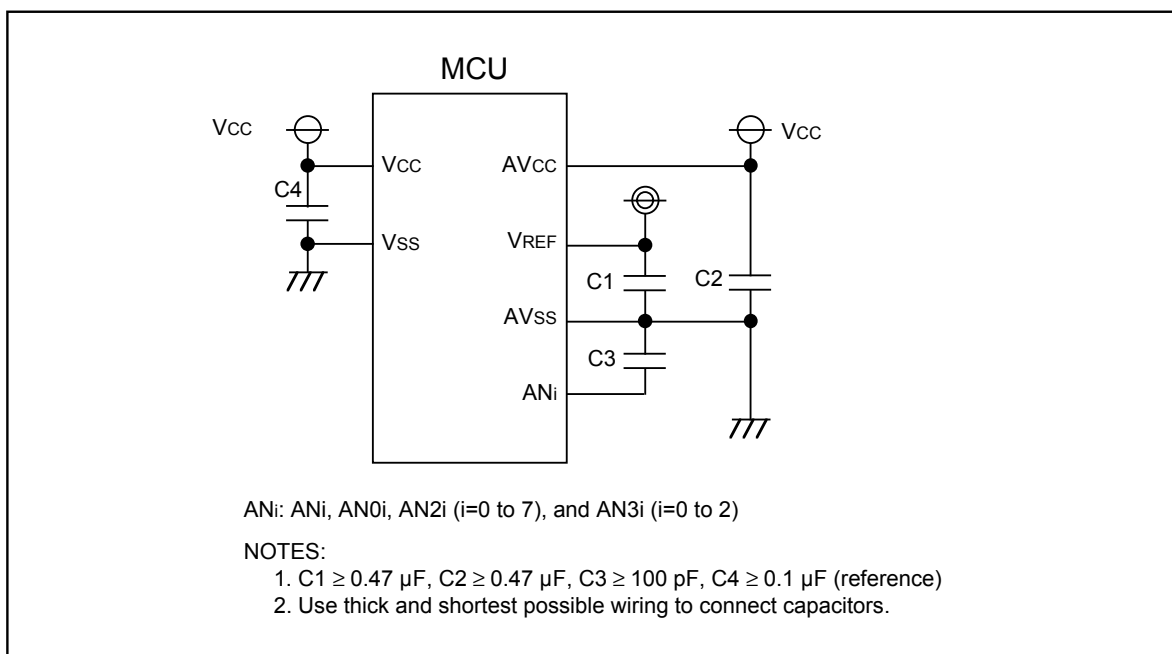

Figure 22.4 Use of capacitors to reduce noise
3. To prevent noise-induced device malfunction or latchup, as well as to reduce conversion errors, insert capacitors between the AVCC, VREF, and analog input pins (ANi, AN0i, AN2i(i=0 to 7), and AN3i(i=0 to 2)) each and the AVSS pin. Similarly, insert a capacitor between the VCC1 pin and the VSS pin. **Figure 22.4** is an example connection of each pin.